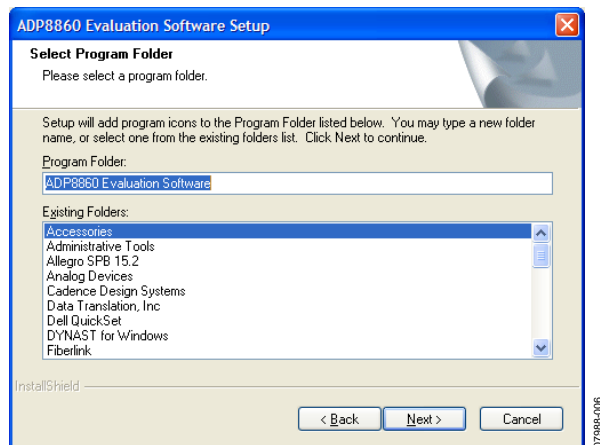

Figure 6. Select Program Folder
- Click **Next>** to install the program to the default program folder (see Figure 6).